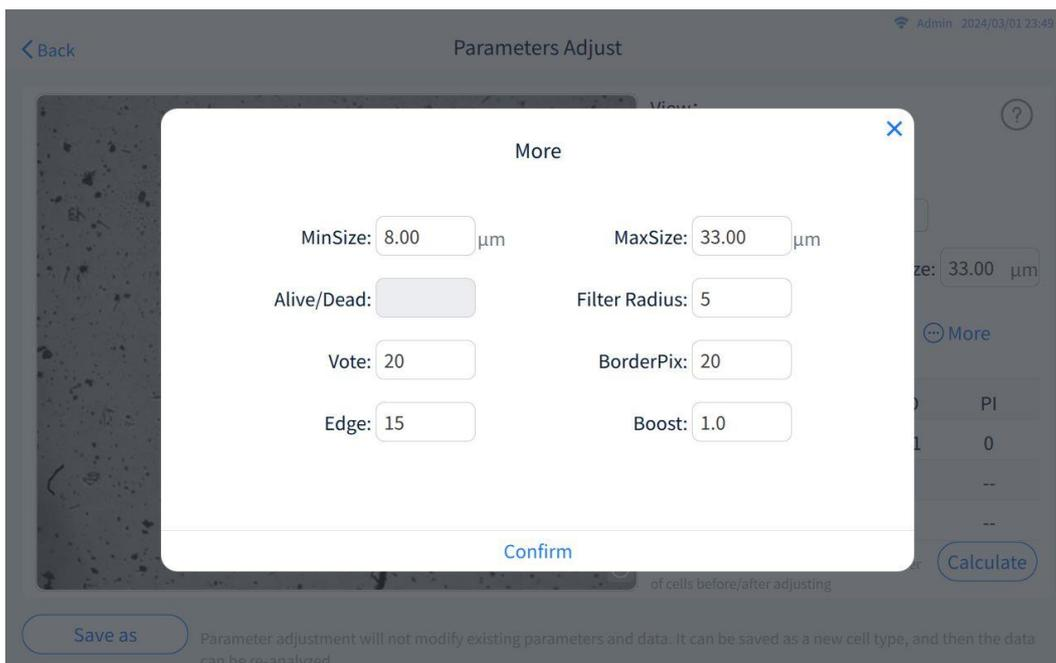

Figure 6-10
**Note:** [More] is only available in BF channels of BF type and fluorescence type, as shown in Figure 6-10.